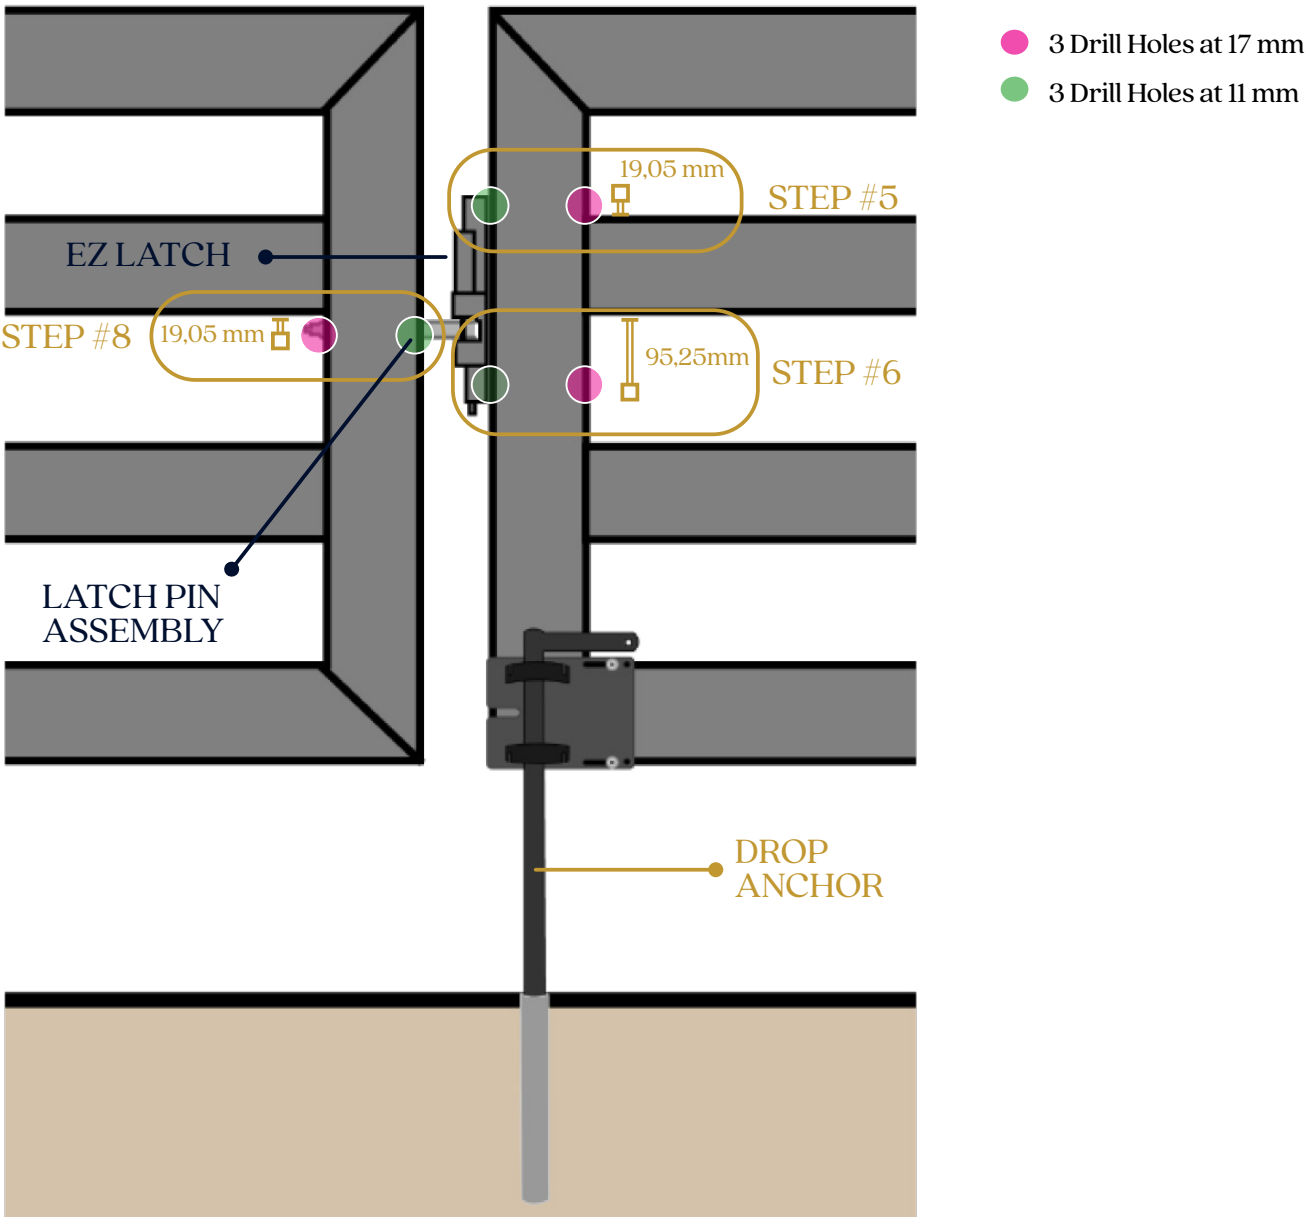

Figure 2
2. Drill three 17 mm holes (1 hole on the pin-gate; 2 holes on the ground-anchor gate) using a step drill. Reference the pink circles on Figure 2 for placement.
3. Drill three 10 mm holes on the outside face of both gates (1 hole on the pin-gate; 2 holes on the ground-anchor gate) using a step drill. Reference the green circles on Figure 2 for placement.
1. Clamp the drop anchor housings onto the gate ends using the two fastener sets (sets include 2 barrel nuts and four 3/4" bolts). The nuts fit closely to the top and bottom surfaces of the bottom rail (Figure 2).